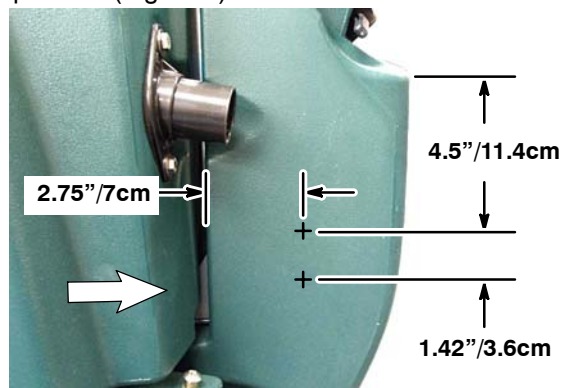

Fig. 8
8. Measure and mark the retainer bracket screw locations on the leftside of control console as specified (Figure 8).